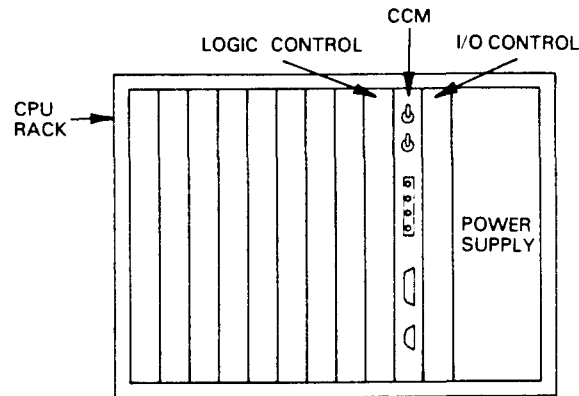

Figure 2.7 CCM LOCATION IN SERIES SIX PLC
1. With CPU rack power turned off, install the CCM module into the logic rack using the extraction/insertion tool furnished with the Series Six PLC. Refer to The Series Six PLC rack layout (Figures 2.7 and 2.8)